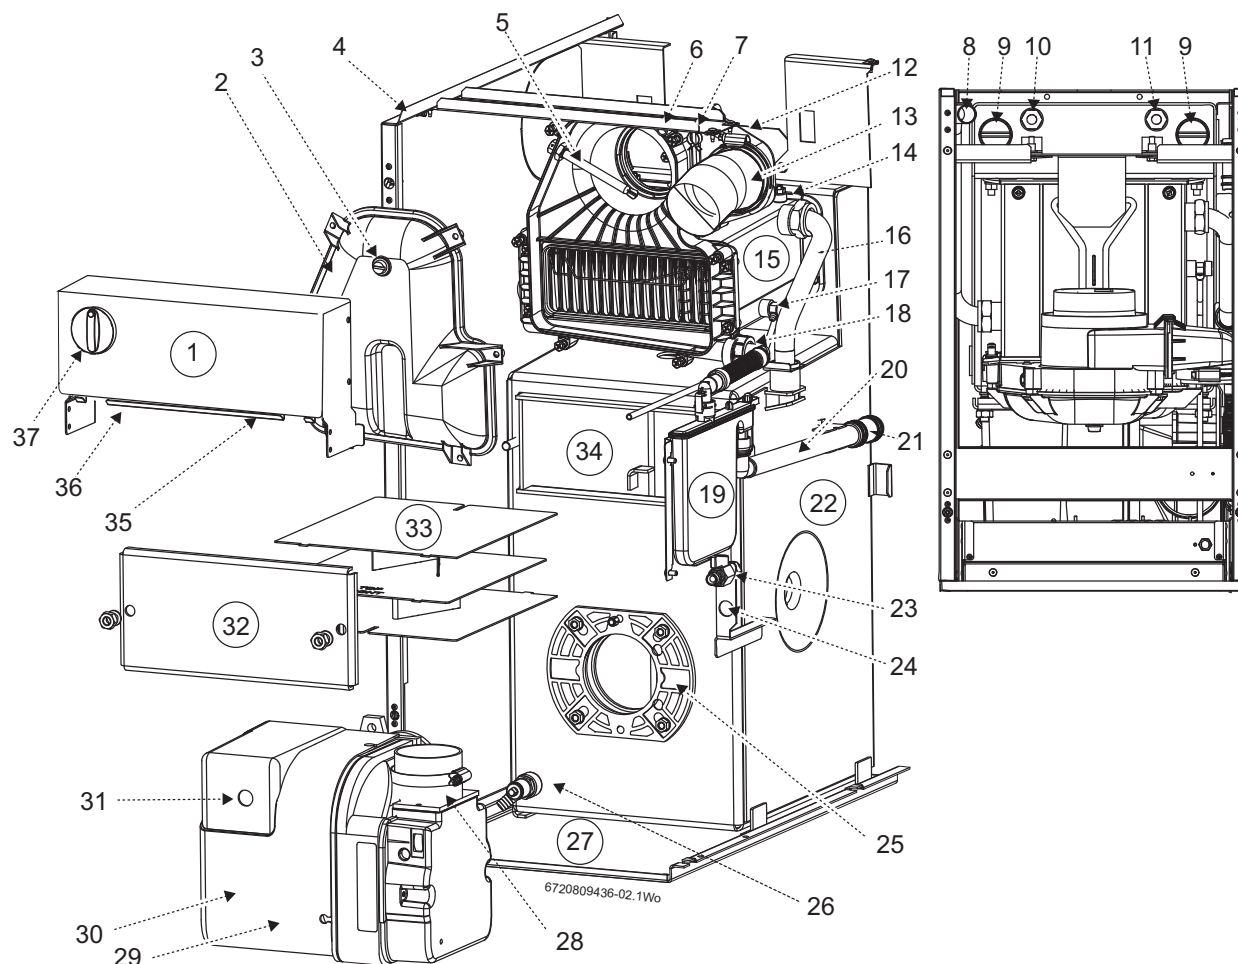

Fig. 4 18/25 Regular appliance shown
**Figure 4 does not include the top, front, and right hand side panel.**